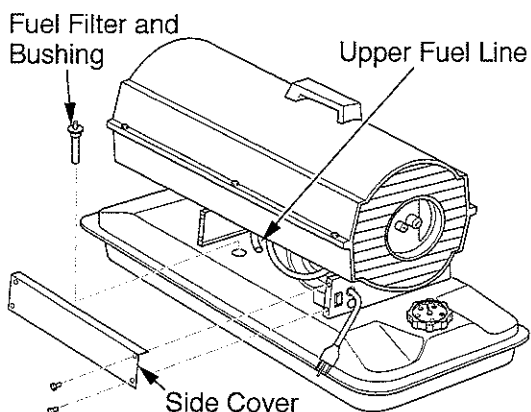

Figure 18 - Fuel Filter Removal, 40/50/55/60/70 Models
- Pull upper fuel line off fuel filter neck (see Figure 18 or 19).
3. Remove 4 side cover screws with a 5/16" nut driver. Remove side cover (see Figures 18 or 19, page 10).
12. Replace side cover (see Figures 18 or 19, page 10).
2. Remove side cover screws using 5/16" nut driver (see Figure 18 or 19, page 10).